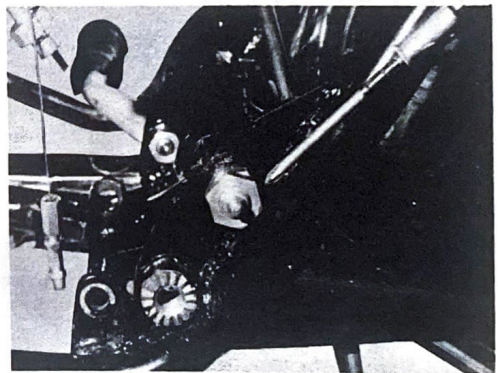

Fig. 5-9-6
- 3) Grease the rear arm shaft from time to time with grease pump through the grease nipple. (Fig. 5-9-6)